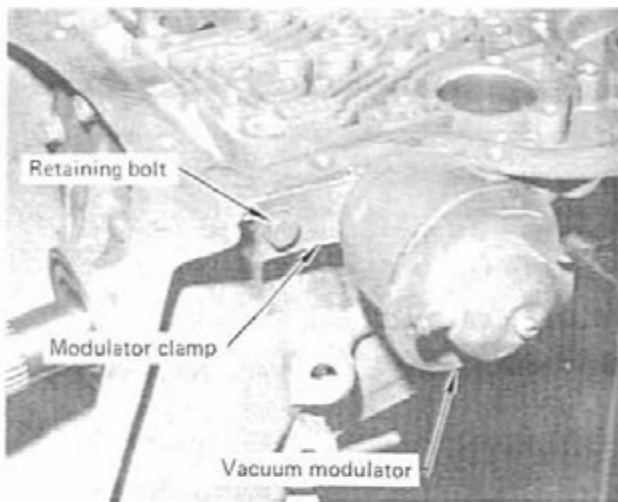

FIGURE 8
STEP 8. Remove vacuum modulator retaining bolt and clamp. (See Fig. 8) Remove vacuum modulator and O-ring. Discard O-ring. Reach into modulator bore in transmission case with a pair of needle nose pliers and carefully remove modulator valve. Set them in the oil pan.